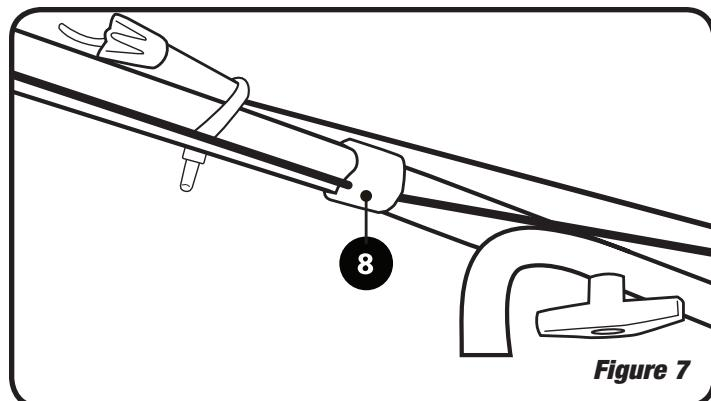

Figure 7
2. Secure the cable to the upper handle with the cable clip (item 8). See Figure 7.